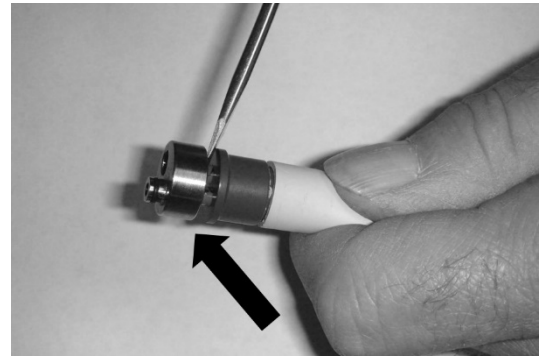

Fig. 3
- 5 Separate the gray tubing retainer from the connector to expose the tubing. Use a small flathead screwdriver if needed. (Fig. 3)